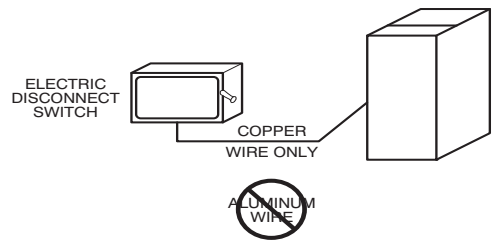

Fig. 34 – Field-Supplied External Electrical Box on Furnace Casing
Use only copper wire. See Fig. 34.
1. Drill two (2) 1/8-in. (3 mm) pilot holes through the dimples in the furnace casing near the 7/8-in. knock-out on the side of the casing. Do not remove the knock-out in the side of the casing.
9. Connect field power and neutral leads to furnace power leads inside the external electrical box as shown in Fig. 34.